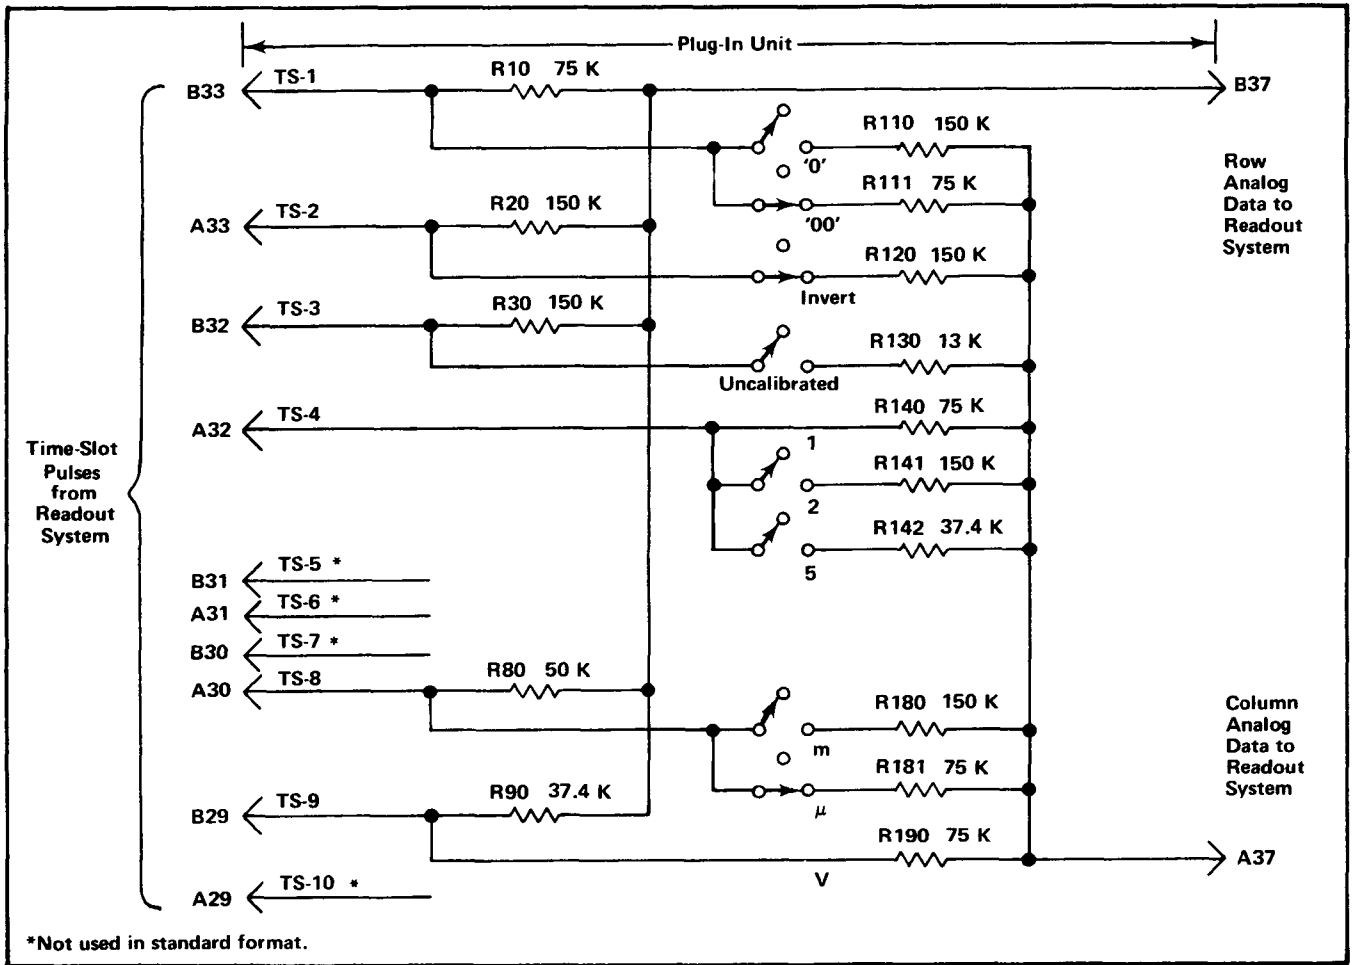
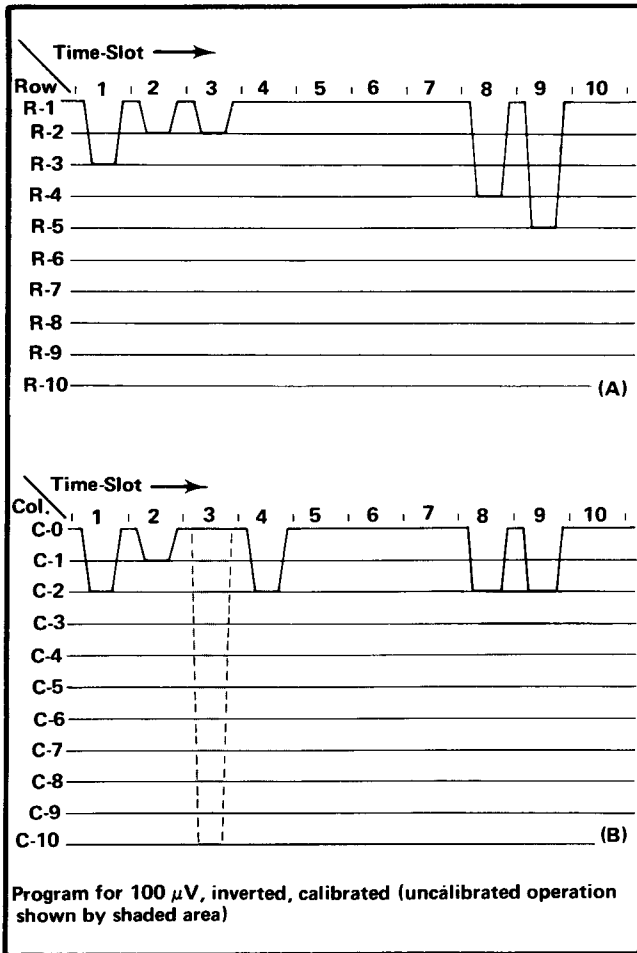

Fig. 3-33. Typical encoding scheme for voltage-sensing amplifier plug-in unit. Coding shown for deflection factor of 100 microvolts.
Fig. 3-34. Idealized current waveforms of: (A) Row analog data, (B) Column analog data.
Data is conveyed from the plug-in units to the Readout System in the form of an analog code having up to 11 current levels (from zero to one milliampere in 100 microampere steps). The characters which can be selected by the encoded data are shown on the Character Selection Matrix (see Fig. 3-26). Each character requires two currents to define it; these currents are identified as the column current and the row current which correspond to the column and row of the matrix. The column and row data is encoded by resistive programming in the plug-in units. Fig. 3-33 shows a typical encoding scheme for a voltage-sensing amplifier plug-in unit. Notice that the 10 time-slot (TS) pulses produced by the Time-Slot Counter stage are connected to the plug-in unit. However, time-slots 5, 6, 7, and 10 are not used by the plug-in unit to encode data when using the Standard Readout Format (see Table 3-1 for Standard Readout Format). The amplitude of the time-slot pulses is exactly  $-15$  volts as determined by the Timer stage. Therefore, the resultant output current from the plug-in units can be accurately controlled by the programming resistors in the plug-in units.
For example, in Fig. 3-33, resistors R10 through R90 control the row analog data which is connected back to the Readout System. These resistors are of fixed value and define the format in which the information will be presented by the Readout System. Fig. 3-34A shows an idealized output current waveform of row analog data which results from the 10 time-slot pulses. Each of the steps of current shown in these waveforms corresponds to 100 microamperes of current. The row numbers on the left-hand side of the waveform correspond to the rows in the Character Selection Matrix shown in Fig. 3-26. The row analog data is connected back to the Readout System via terminal B37 of the plug-in interface.
The Column analog data is defined by resistors R110 through R190. The program resistors are connected to the time-slot lines by switch closures to encode the desired data. The data as encoded by the circuit shown in Fig. 3-33 indicates a 100 microvolt sensitivity with the display inverted and calibrated vertical deflection factors. This results in the idealized output current waveforms shown in Fig. 3-34 at the column analog data output, terminal A37 of the plug-in interface. Resistor R111, connected between time-slot 1 and the column analog data output, encodes two units of current during time-slot 1. Referring to the
connectors of vertical plug-in units. A special coding ring around the input connector of the plug-in unit senses the attenuation ratio of the probe (with readout-coded probes only). The probe contains a resistor which results in additional column current. For example, if a 10X attenuator probe is connected to a plug-in with the coding for 100 microvolts as shown in Fig. 3-33, an additional unit of current is added to the column analog data during time-slot 1. Since two units of current were encoded by R111 (see Fig. 3-33), this additional current results in a total of three units of column analog current during this time-slot. Referring to the Character Selection Matrix, three units of column current along with the two units of row current encoded by R10 indicates that the prefix should be reduced. Since this instruction occurs in the same time-slot which previously indicated that two zeros should be added to the display and only one instruction can be encoded during a time-slot, the zeros do not appear in the display. The CRT readout will now be changed to 1 mV (readout) program produced by plug-in same as for previous example.
Finally, memory C is interrogated during time-slot 8 to obtain information on whether the prefix should be reduced or left at the value which was encoded. If data has been encoded which calls for a reduction in prefix, a negative-going output level is produced at pin 7. This negative level subtracts one unit of column current from the data at the input to the Column Decoder. Notice on the Character Selection Matrix of Fig. 3-26 that a reduction of one column when row 4 is programmed results in a one unit reduction of the prefix. For example, with the 100  $\mu$ V program shown in Fig. 3-33, if the data received from the plug-in called for a reduction in prefix, the CRT readout would be changed to 1 mV (zeros deleted by program; see Encoding the Data).